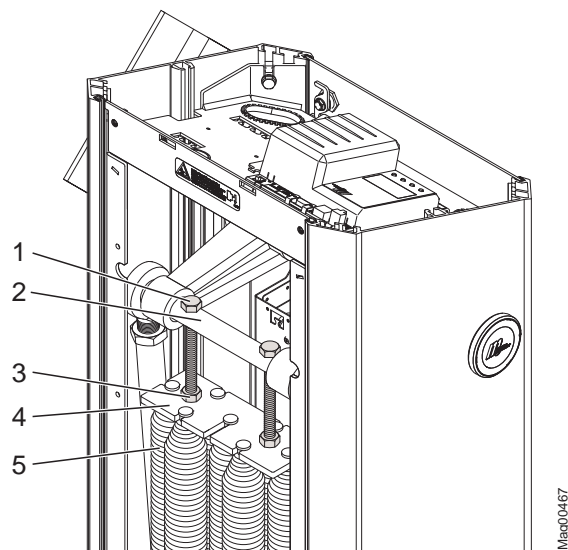

Fig. 43: Setting balancing springs Access XXL
7. Evenly loosen the M12 nuts (Fig. 43, item 3).